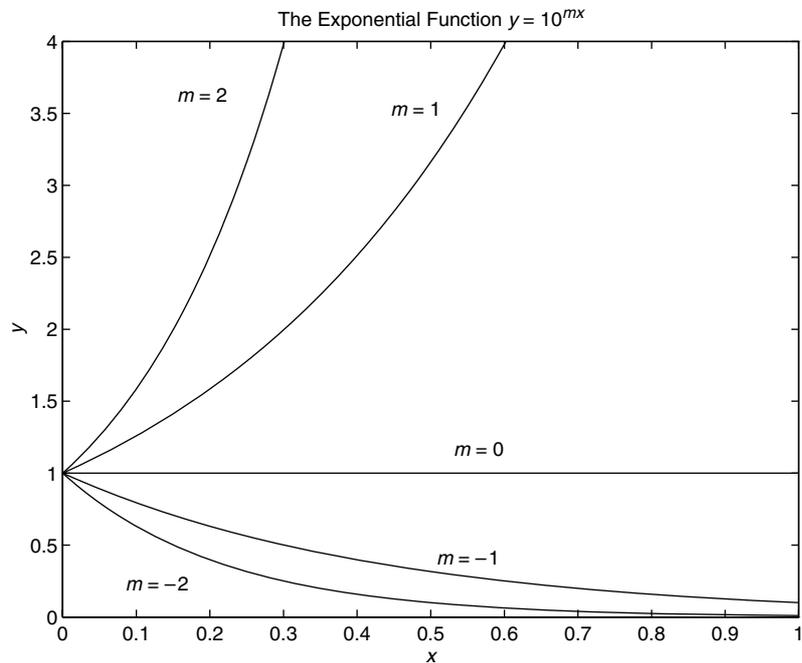

Figure 6.1–1 Examples of exponential functions.
1. Examine the data near the origin. The exponential function can never pass through the origin (unless of course  $b = 0$ , which is a trivial case). (See Figure 6.1–1 for examples with  $b = 1$ .) The linear function can pass through the origin only if  $b = 0$ . The power function can pass through the origin but only if  $m > 0$ . (See Figure 6.1–2 for examples with  $b = 1$ .)